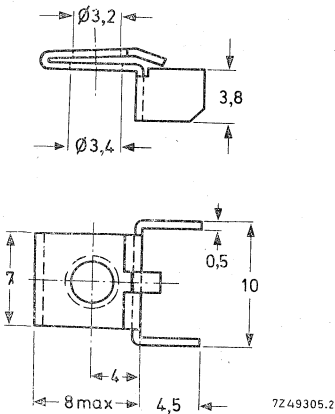

Fig. 5 Cadmium plated steel mounting bracket 4332 026 06540.
- cadmium plated steel bracket, catalogue number 4332 026 06540 (Figs 5 and 6).